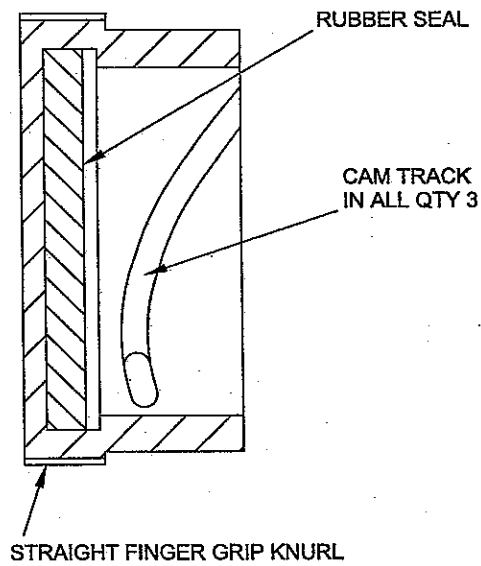

Fig 30 Receptacle plastic protective cap, sectional view
20.4 Plastic caps (Fig 30) provide protection against ingress of moisture, oil or dust when fitted to receptacle type connectors.